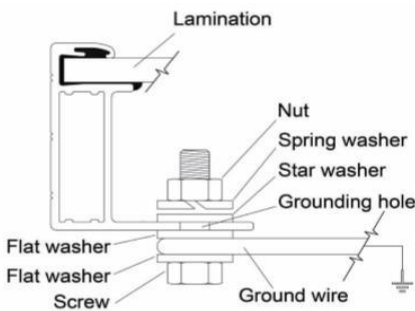

figure 1
- Use M8 bolt and washers to bond the ground wire and aluminum frame through the grounding holes (as shown *figure 1*). The tightening torque is 3-7N.m. All nuts and washers should be made of stainless steel.